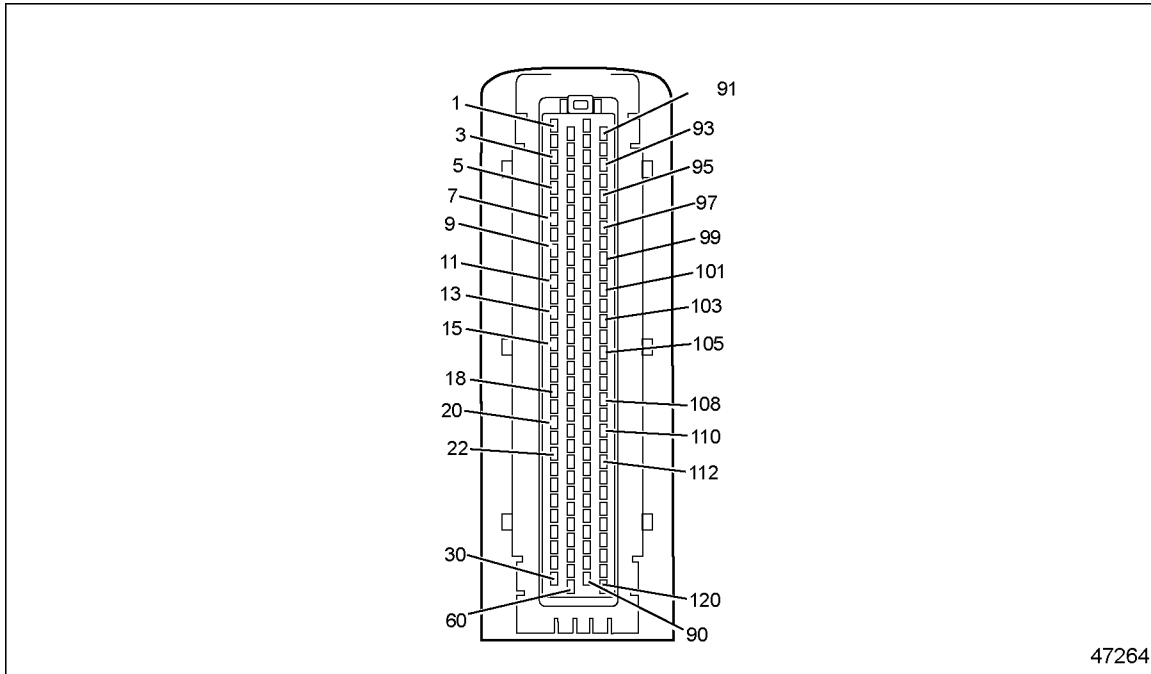

Figure 25-1 120-pin MCM Connector
- [a] If the voltage is less than 11.5 volts, repair the open between pin E of the 23-pin connector and pin 24 of the MCM 120-pin connector (see Figure 25-1). Refer to section 25.1.3.1.